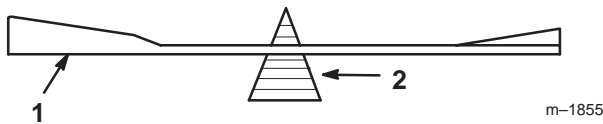

Figure 33
2. Check the balance of the blade by putting it on a blade balancer (Fig. 33). If the blade stays in a horizontal position, the blade is balanced and can be used. If the